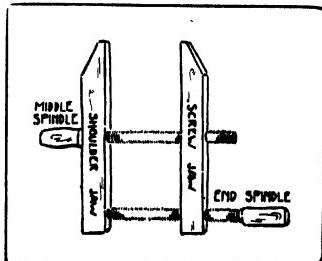

Fig. 173. Handscrew.
*Handscrews*, Fig. 173, consist of four parts, the shoulder jaw and the screw jaw, made of maple, and the end spindle and the middle spindle, made of hickory. The parts when broken can be bought separately.